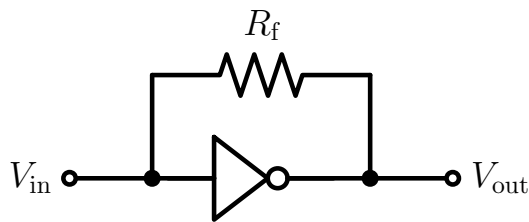

Figure 10: Self-biased inverter amplifier with feedback resistor R_f .
5. Open `amp.sch` in Xschem and add a resistor between the `vin` and `vout` nets, as shown in Figure 10. For a first schematic-level study, the generic `res.sym` device is fine. Start with $R_f = 1\text{ M}$.